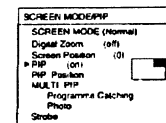

Fig. 37.
- 2 Select "Screen Mode/PIP" with **Δ** or **∇** and press OK. The SCREEN MODE/PIP menu appears (see Fig. 37).